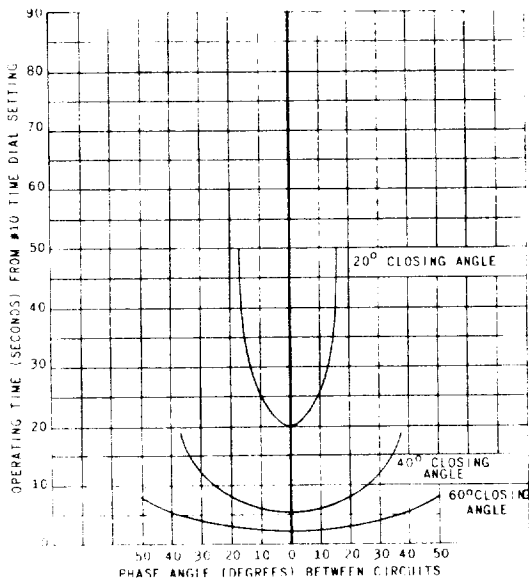

Figure 4 (K-6400151-3) Typical Time/Phase Angle Curve of Relay Type IJS52D1 with Rated Voltage
3. With both coils connected to a rated voltage source with zero displacement, check that pickup time agrees with the values given in Figures 4 or 5 $\pm 10\%$.